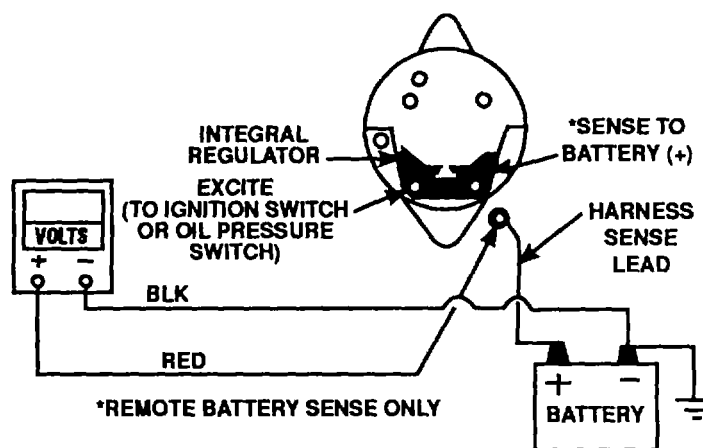

Figure 3-40. Cable Harness Voltage Test
4. Turn ignition switch on but do not start engine. Ensure jumper (JU1) is not attached. Check for battery voltage at terminals A and B. Test light will come on (figure 3-40).
1. Remove ammeter (+) wire from terminal and connect multimeter as shown in figure 3-40. Meter should indicate battery voltage (12.6 volts). If voltage is zero (0), the harness lead is open and should be repaired or replaced.